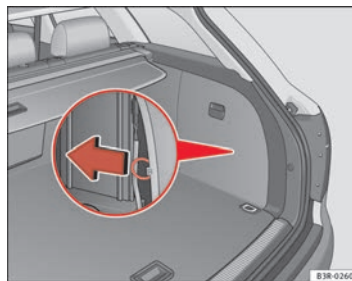

Fig. 175 Luggage compartment: Releasing the fuel tank flap by hand in case of emergency
- Pull the ring to unlock the fuel tank flap ⇒ fig. 175. ■